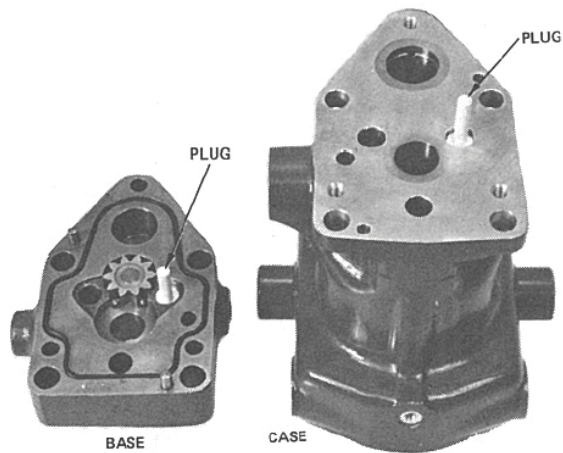

Figure 3-9. Plugs Inserted for CCW Rotation
6. If check valves are not used, the governor is plugged for one direction rotation. Rotational direction is determined by viewing the drive pad on the prime mover and observing the direction of rotation of the drive coupling. Figures 3-9 and 3-10 show plugs with O-rings installed for CCW and CW rotation respectively.